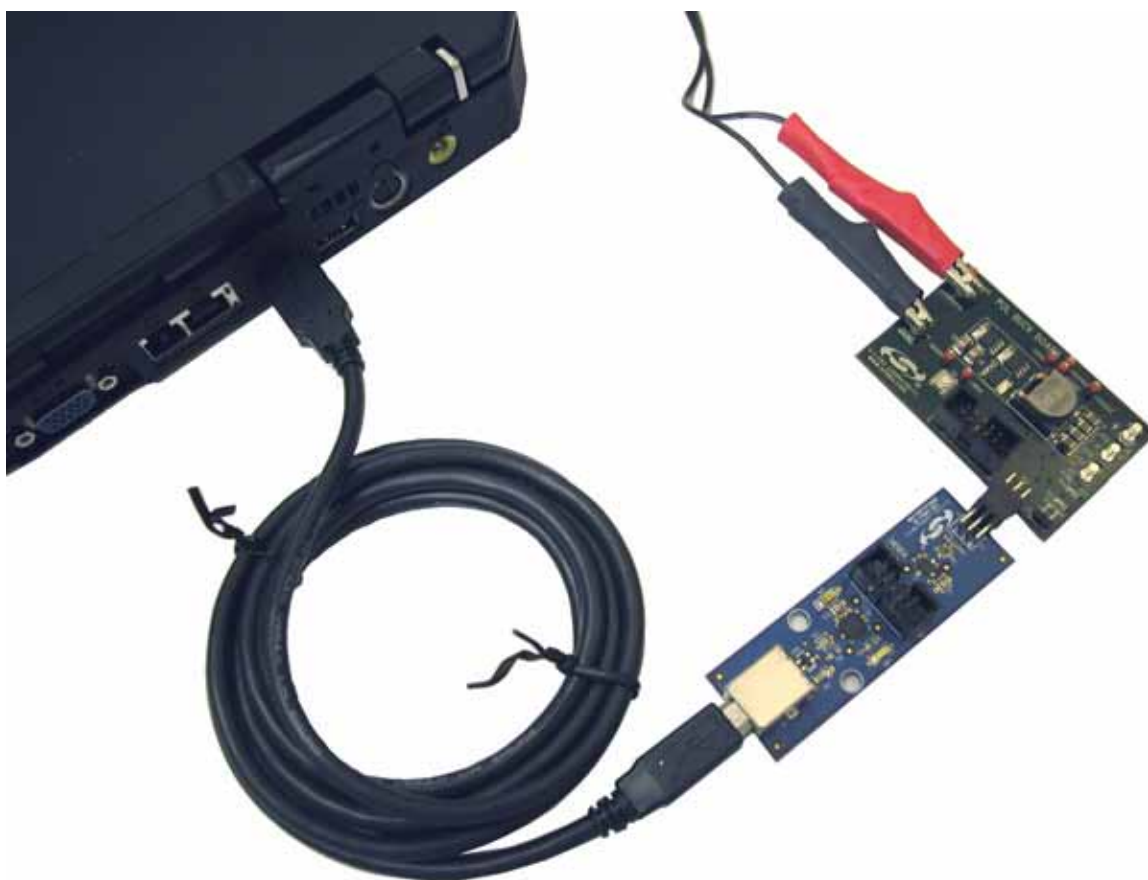

Figure 4. USB to SMBus Bridge Board Connection (Load not Connected)
6. Connect the Si8252 Single-Phase POL Target Board to the USB to SMBus Bridge Board as shown in Figure 4.